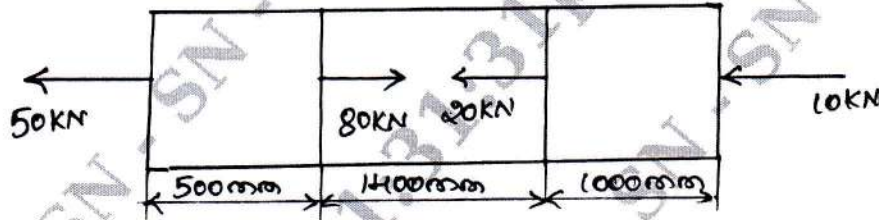

Fig.Q1(c)
- c. A brass bar having cross sectional area 300mm^2 is subjected to axial forces as shown in Fig.Q1(c). Find the elongation of the bar when $E = 84\text{GPa}$.